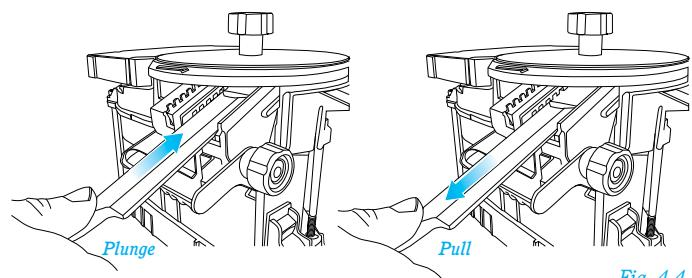

Fig. 4-4
**Slide tool (bevel up) into Sharpening Port between Fence and guide rail.** See fig. 4-4. Contact Wheel for 1–2 seconds (no longer), then pull tool away from the Wheel, being sure to keep the back of the tool flat on the lapping Abrasive. It is important to pull the cutting edge at least halfway down the lapping Abrasive to remove any burr that may have been created. Repeat this plunge and pull process approximately 10 times until damage to the cutting edge has been removed and a consistent finish is attained.